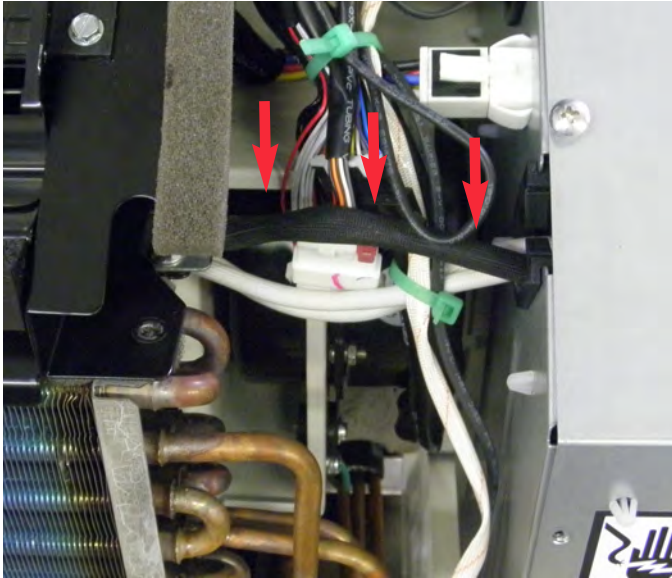

Figure 14
- Ensure PHI power cord is routed as shown (see figure 14)